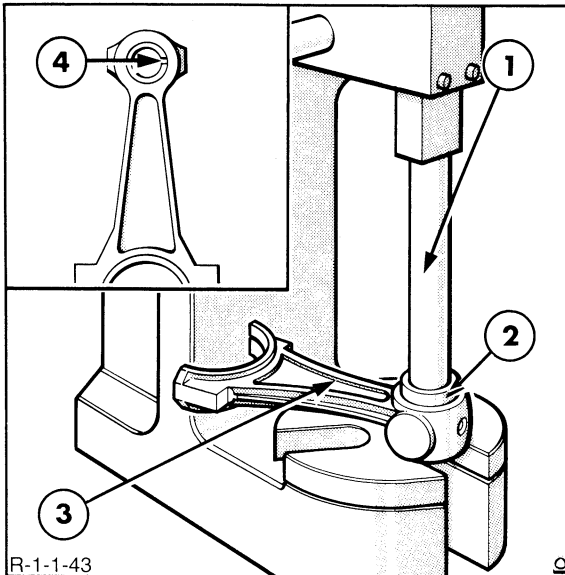

FIGURE 1-45
5. Check the piston pin bushings for wear or damage. Measure the outside diameter of the piston pin and the inside diameter of the connecting rod bushing. If the clearance is not within the specified limits as shown in the previous table, press out the connecting rod bushing and install a new bushing using tool No. 818 or FNH09514 with a suitable adapter, Figure 1-45.